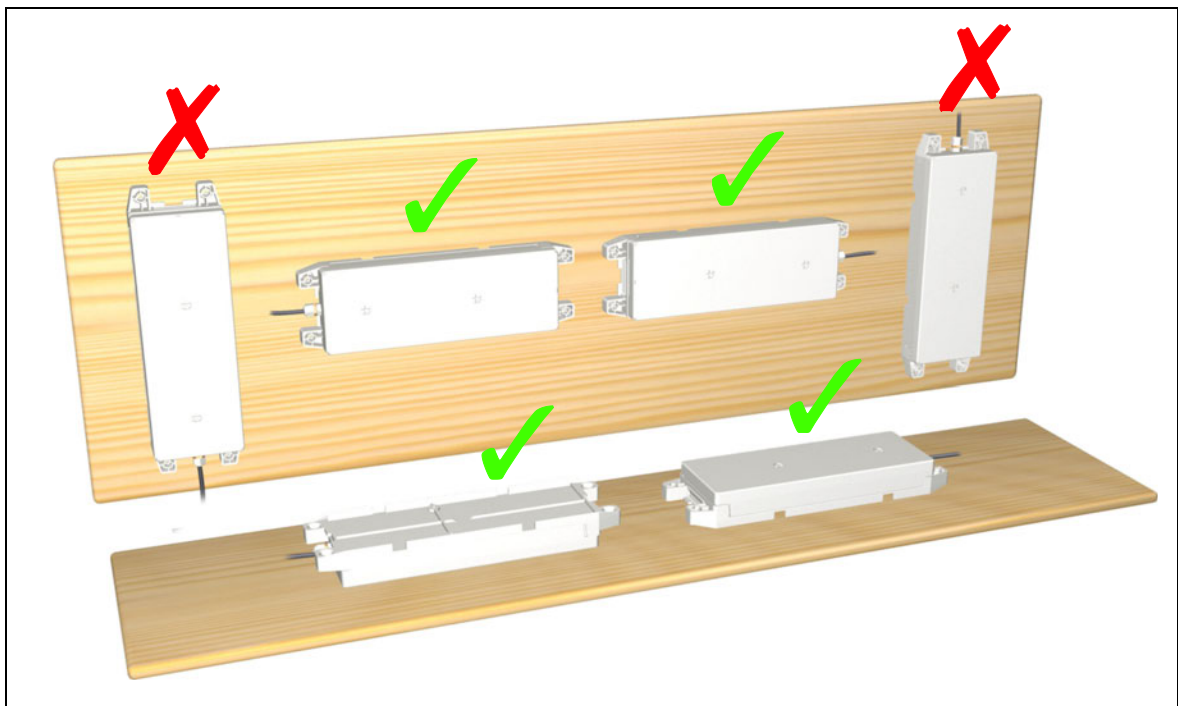

Figure 11 Permitted and prohibited positions when charging the AG300
<p>The following information is important when mounting the AG300:</p> <ul style="list-style-type: none"> • Charge the AG300 completely (for at least 24 hours) before first use. The installed batteries achieve their full capacity only after 5 to 10 discharge cycles. • The air vents on the AG300 must not be covered during the charging process. • When mounting the AG300, make sure that it is not lying on its top (upside down) and the connecting cable is not facing downwards. The AG300 may only be charged when it is properly positioned (as shown in Figure 11). • Allow the AG300 to rest for about 1 hour after charging it; this will prolong its life-span.
- Charge the AG300 only in its permitted charging position (as shown in Figure 11).
- Refer to Figure 11 for the permitted charging positions.